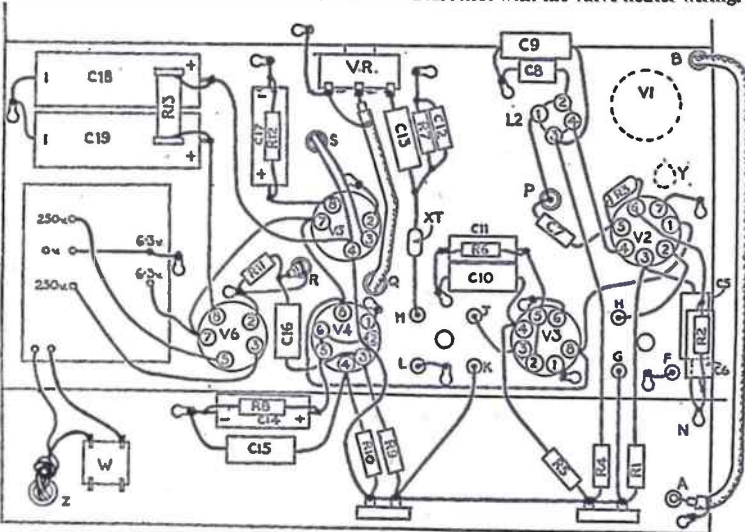
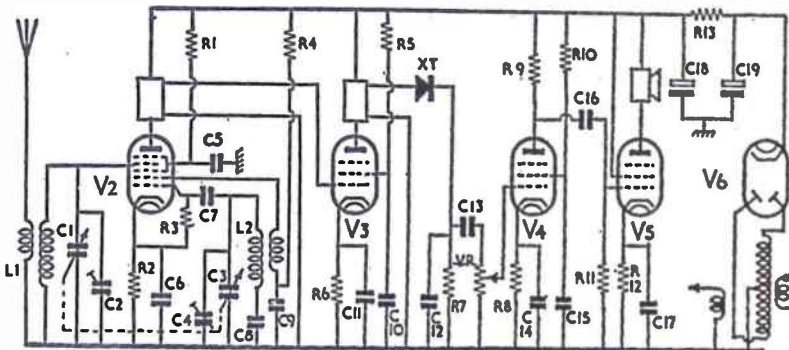

Fig. 2
Fig. 4
When the chassis is ready, fix in the valveholders. V1, V3, V4 are Mazda Octals and should be fitted first. V2 is American UX7 and should be fixed next. Lastly, fit V5 and V6 which are International Octal. See that all valves are oriented properly with their tag numbers situated as in Fig. 2. See also that soldering tags are fixed under the retaining bolts as shown in the diagram.
and renew the leads where necessary. There should be a lead from each side of each trimmer condenser mounted over each coil. The leads should be insulated and fairly long to allow surplus to be cut off later. They should also be coloured differently so that the leads from one coil are not confused with those of the adjoining coil. Thus, in Fig. 2, the I.F.T. used is the one with the lead issuing from the top of the can. This lead is probably black. If so, then make the companion lead black also. (This will issue through the chassis at (F) in Fig. 2.) The leads from the other coil in the can could be yellow and these come through the chassis at (H) and (G).
Next, bolt on the tuning condenser. Before so doing, solder a short length of 18 gauge tinned copper wire to the bottom tag of the fixed vanes of the back section of the gang. This projects through the chassis at (P) (Fig. 2) up to  $\frac{1}{2}$  in. or  $\frac{3}{4}$  in. It must not touch the chassis so insulate it with sleeving and use a grommet for the hole.
oscillator. Note that with home-made coils, tag 1 in the diagram (Fig. 2) represents the start of the main winding, with tag 2 the end of it. Tag 3 is the start of the small coupling winding with tag 4, the end of it. Both coils are wound in the same direction.
to clarify the wiring, this control is shown in Fig. 2 to be half-way along the runner but in actual fact it should be placed further to the left, about 1  $\frac{1}{2}$  ins. or so from the half-way point.
The rest of the wiring can now be started working on each valveholder separately, beginning with V2. Study the practical (Fig. 2) diagram in conjunction with the theoretical (Fig. 4) as you go along. The wiring is clear and straightforward, but we will clarify one or two sections which may possibly require amplification.
Now, fix in the mains transformer and connect the leads as shown in the diagram (Fig. 2). Put a knot in the main flex before it goes through the grommetted hole Z.